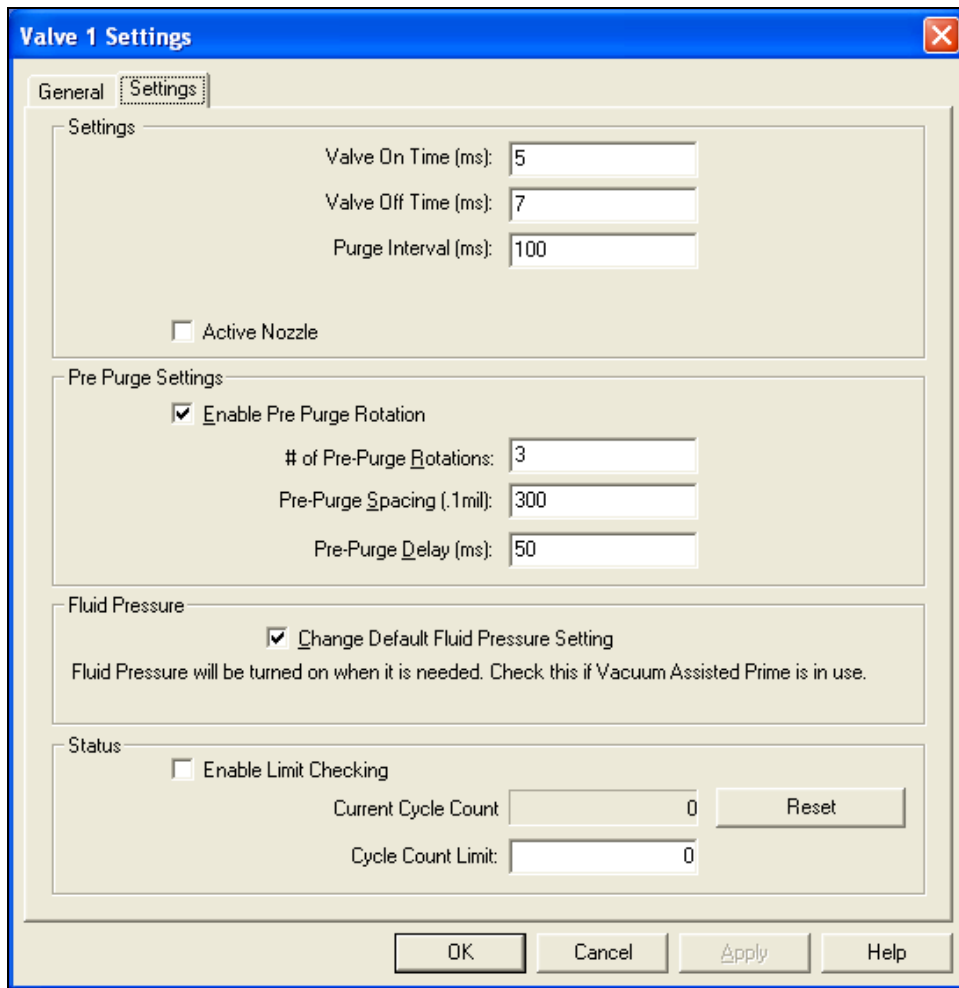

Figure 2-2 Valve 1 Settings
- ▶ The Valve 1 Settings window opens (Figure 2-2).